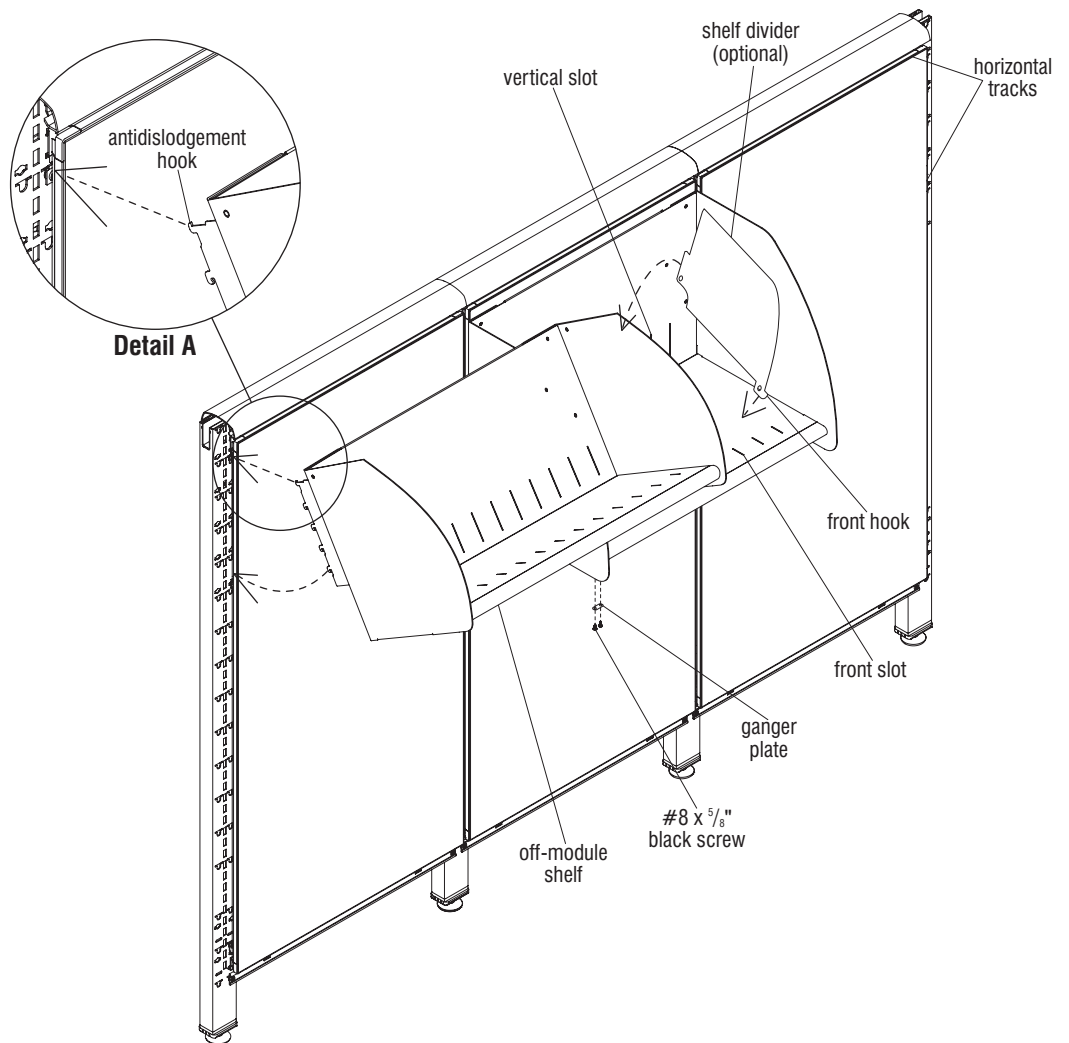

Figure 5
7. When two or more shelves are installed next to each other, secure them together with a ganger plate. Fasten a ganger plate to the shelf bottoms with two #8 x 5/8" black screws (Figure 5).
8. To install shelf dividers (optional), first place the front hook of the divider into the front slot of the shelf. Then rotate the rear of the divider down until the tab snaps into the vertical slot in the shelf back (Figure 5). To remove the divider, press lightly on the shelf back to release the rear tab and rotate it out.